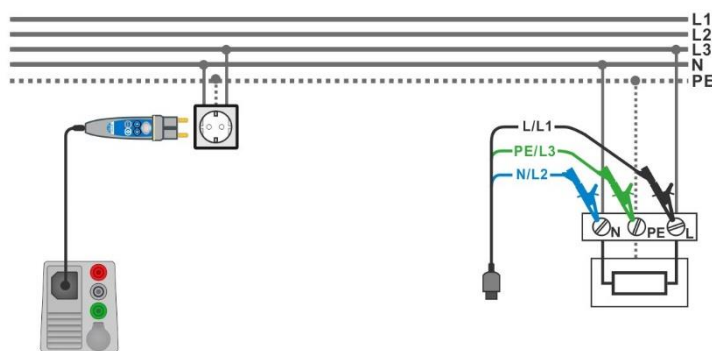

Figure 7.119: Connection of Plug commander and 3-wire test lead
- › Connect 3-wire test lead or Plug commander to the object under test, see **Figure 7.119**.